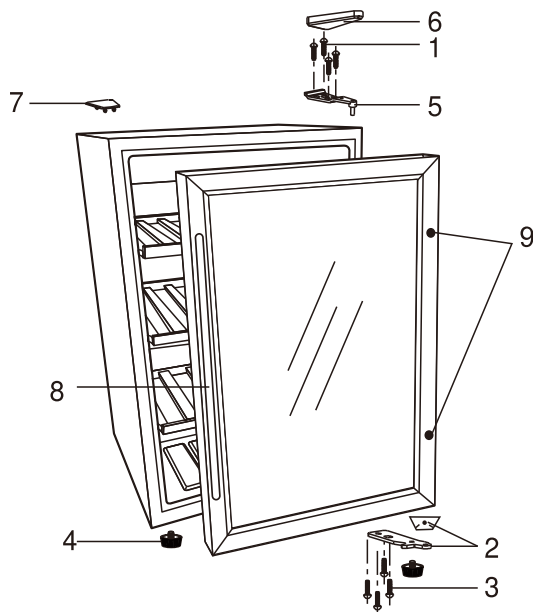

Fig. 3
- Open the door and slightly pull back the door gasket behind to reveal the two (2) holes and screws that secure the handle to the door.
- Using a screwdriver (not included), remove the handle (Fig. 3: No. 8) by rotating the two (2) screws counterclockwise. Remove the screws and washers and place in a secure location. Place handle on a padded surface.
- On the opposite side of the door, you will notice two (2) filler screws (Fig. 3: No. 9) covering the holes where the handle is to be installed. Using a flathead screwdriver (not included) remove the two (2) filler screws (Fig. 3: No. 9) by rotating clockwise from the inside of the door.
Note: Do not attempt to remove these filler screws (Fig. 3: No. 9) from the exterior of the door as you cause damage to the stainless steel door frame.
- Mount the filler screws (Fig. 3: No. 9) over the holes on the opposite side of the door.
- Install the handle (Fig. 3: No. 8) on the desired side. (See "Installing the handle" section on page 6)